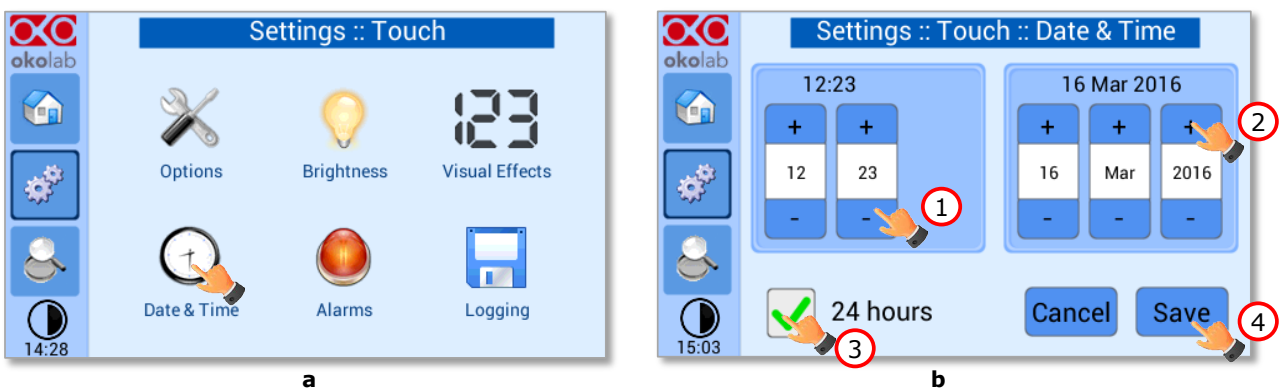

Figure 56. Touch screen settings. Date and Time (a – b).
1. Press the *Date & Time* icon  (see Figure 56 a).
2. Set the values by using the +/- icons (1 and 2 in Figure 56 b).
Tip ► Flag the 24 hours box, if you want to use the hour format based on 24 hours (3 in Figure 56 b).
3. Click on *Save* to confirm (4 in Figure 56 b) or *Cancel* to undo.